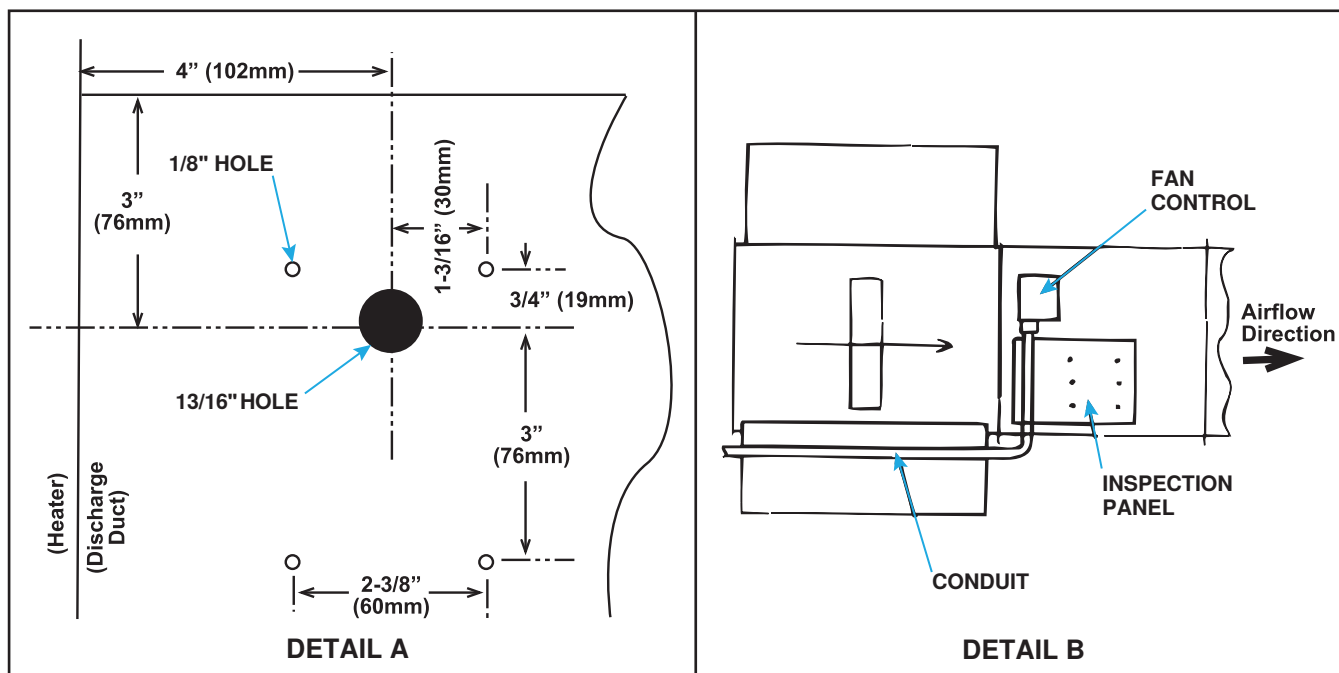

Figure 30. Fan Control Installation
- Install the fan control as follows (see Figure 30, DETAIL A):
- See Figure 30, DETAIL B for the installation of option CQ1 fan control kit (PN 57960):